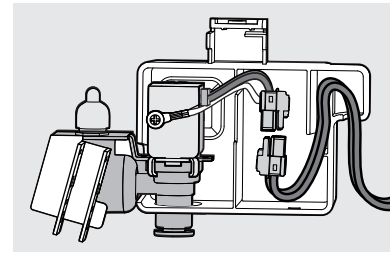

Figure 17
21. Connect the valve wire harness with the white connector from the unit. Insert the wiring in the box as shown. Close the box cover completely, ensuring all wiring is inside. See Figure 17.